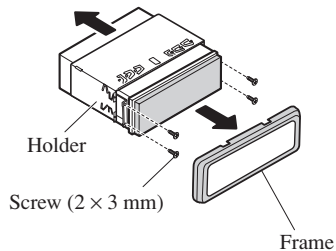

Fig. 14
- Remove the frame and the holder. (Fig. 14)